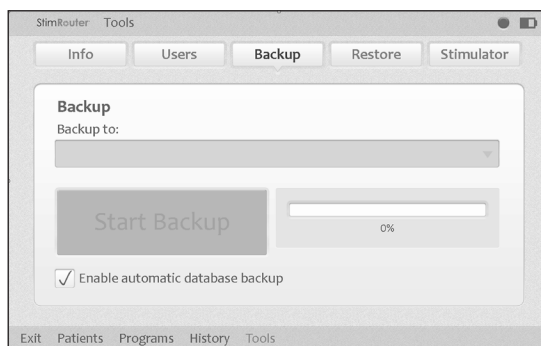

Figure 9-5: Backing up the Clinician’s Programmer database.
1. Press “Tools” on the Menu Bar, press the Backup Tab, and then check “Enable automatic database backup”. The Clinician’s Programmer database will back up once daily and each time the software is exited. **See Figure 9-5.**
2. From the “Back up to” drop-down list, select SD Card drive, and then press the “Start Backup” button. **See Figure 9-5.**